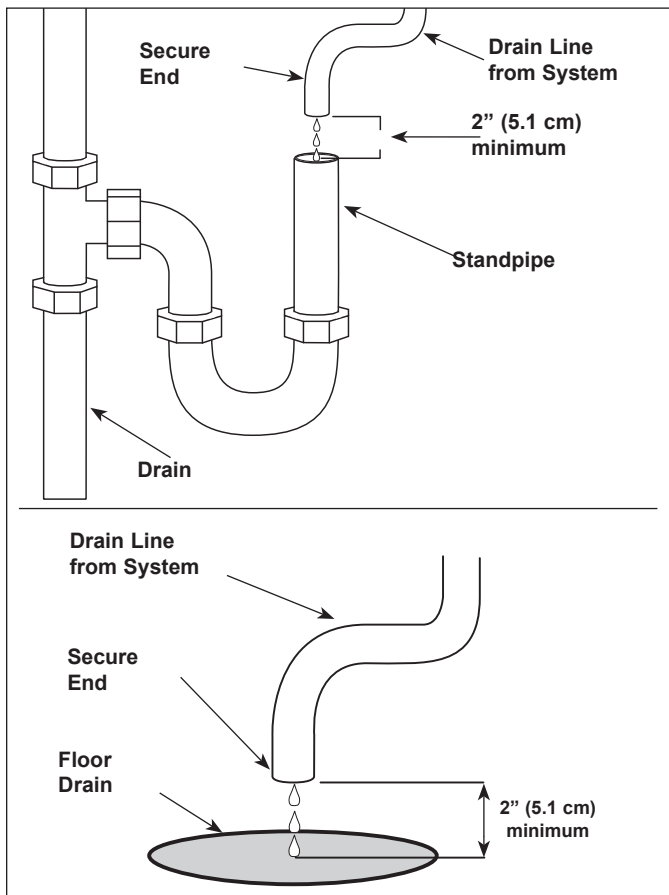

Figure 4. Proper Drain Plumbing
2. Connect one end of the hose to the Drain Valve and secure it with a Worm Clamp (Figure 4).
- The drain line plumbing must be position and secured at least 2 inches above the drain (Figure 4). This air gap protects the system from contamination in the event of a backed-up drain.